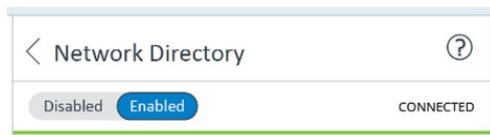

Figure 34. Successful network connection status.
- Once all information has been entered, click **Enable**. Successfully configuring a LAN results in a **CONNECTED** message on the XFp Analyzer. (Figure 34)